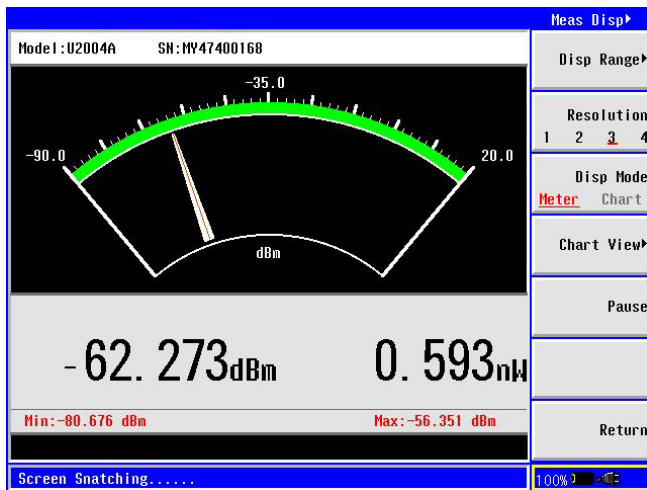

Figure 16. Meas Disp menu allows you to configure the display measurement and resolution
4. Press {Return} > {Meas Disp ▶} (see Figure 16).